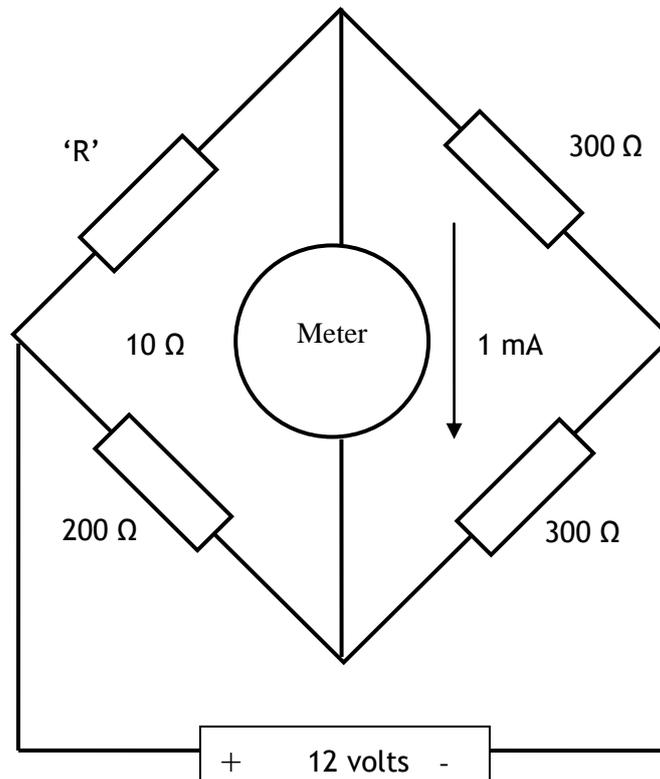

Fig Q1
1. Fig Q1 shows a circuit designed for measuring temperature.
- (a) Calculate the value of the sensing element 'R' so that the meter will read full scale deflection (F.S.D.) of 1 mA in the direction shown. (8)
- (b) Calculate the value to which the 200 Ω resistor will have to be changed if the meter becomes unserviceable and has to be replaced with one of the same resistance but of 2 mA F.S.D. if the meter is still to read full scale deflection. (8)